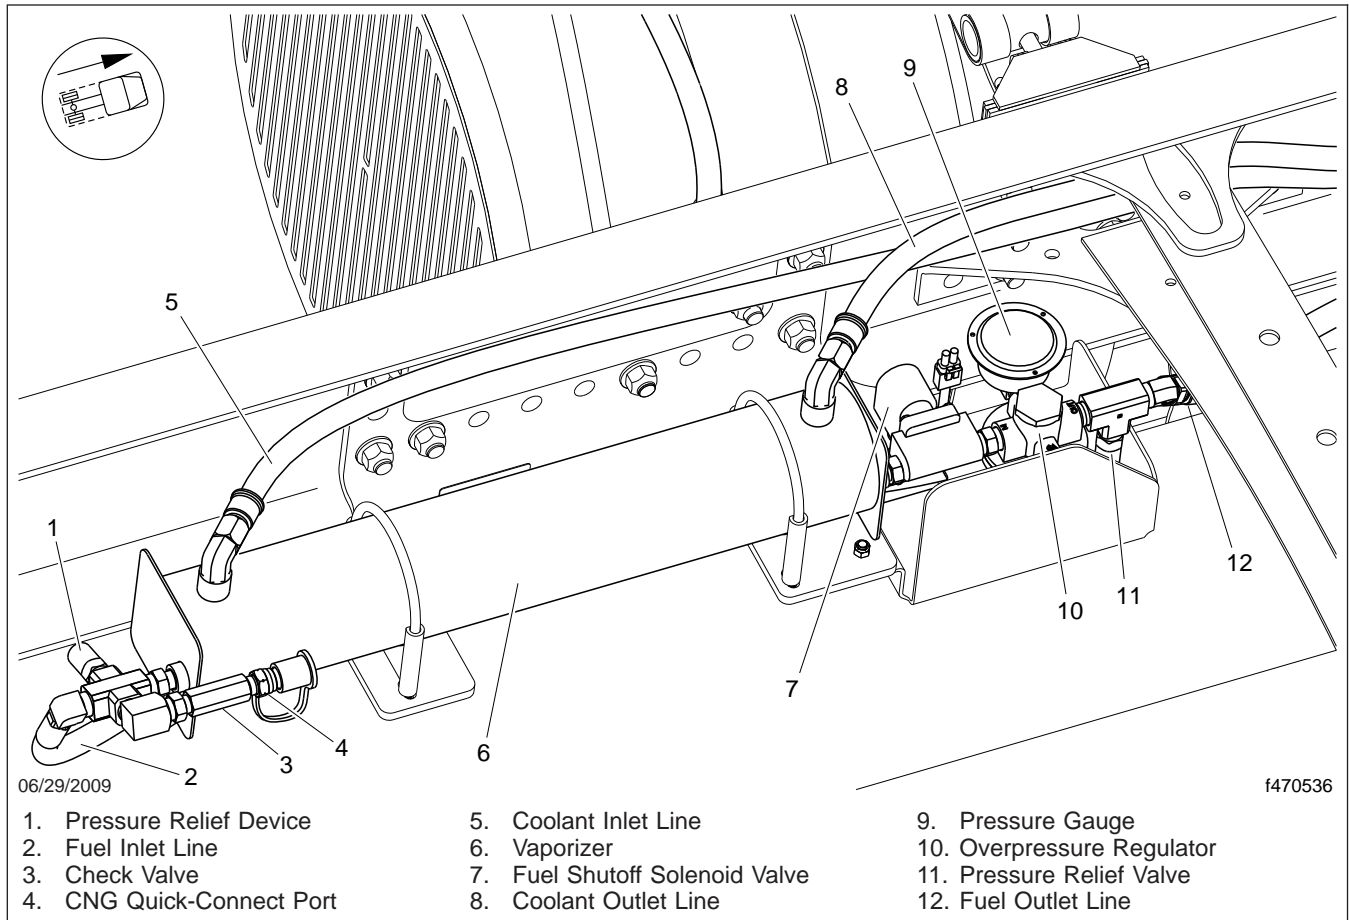

Fig. 21.11, LNG Vaporizer Assembly
8. Inspect the LNG vaporizer for signs of damage or leaks. See Fig. 21.11. Inspect the vaporizer mounting brackets for signs of looseness.